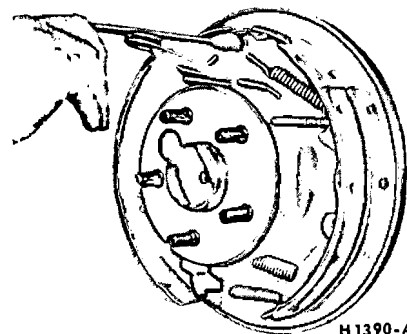

FIG. 7 Retracting Spring Removal
1. With the wheel and drum removed, install a clamp over the ends of the brake cylinder as shown in Fig. 7.
2. Remove the shoe to anchor springs, with the tool shown in Fig. 7 and unhook the cable eye from the anchor pin.